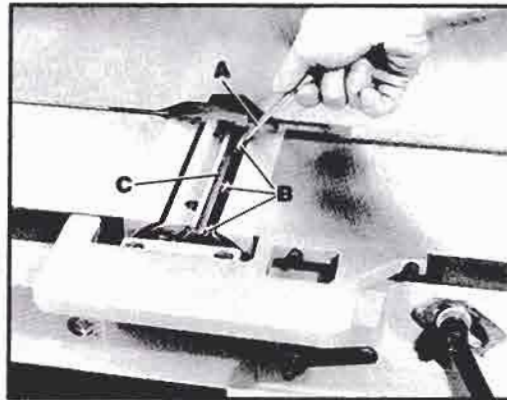

Fig. 29
3. Using wrench (A) Fig. 29, slightly loosen the three locking screws (B) in each knife slot to relieve stress in the cutterhead by turning the screws clockwise.
4. Loosen screws further and remove the knives (C) Fig. 29, from the cutterhead.